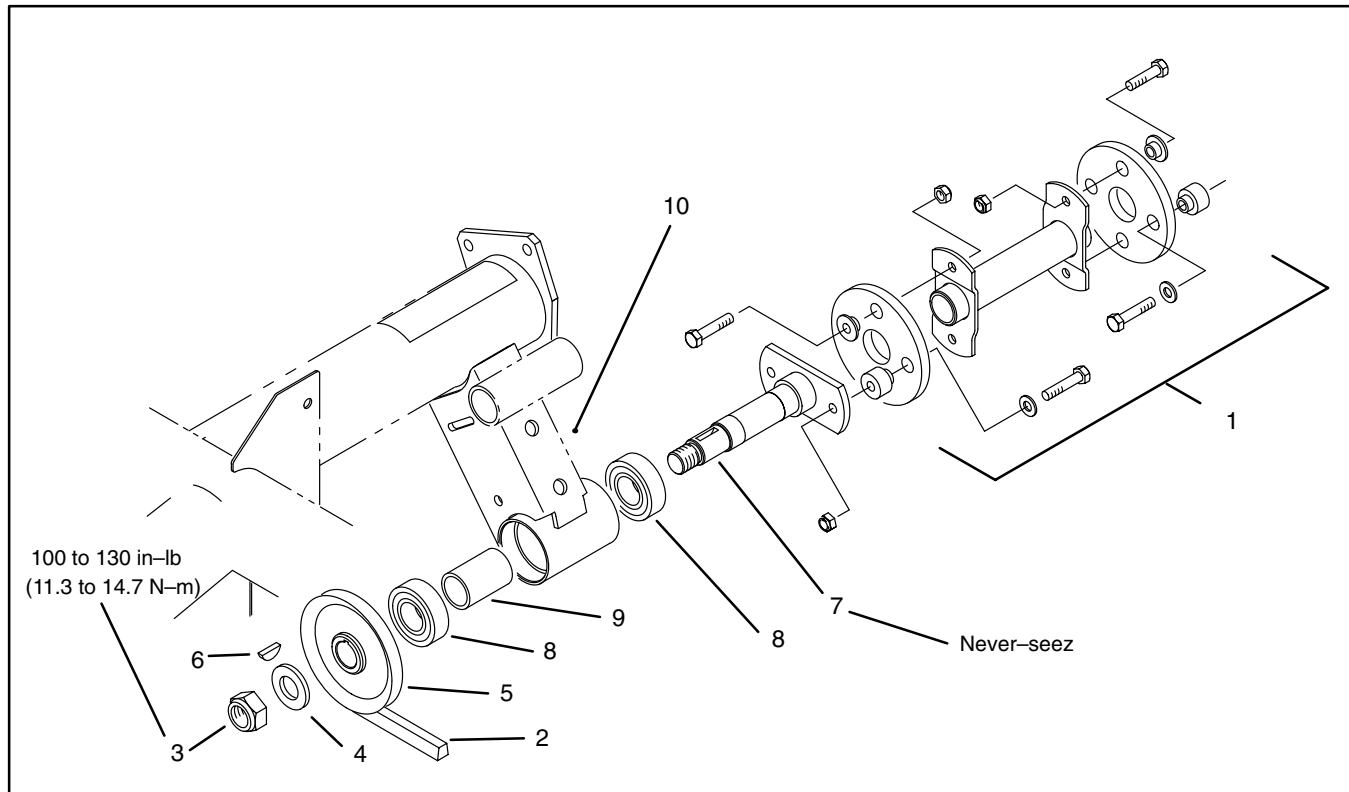

Figure 16
1. Disassemble and reassemble as shown in Figure 16.